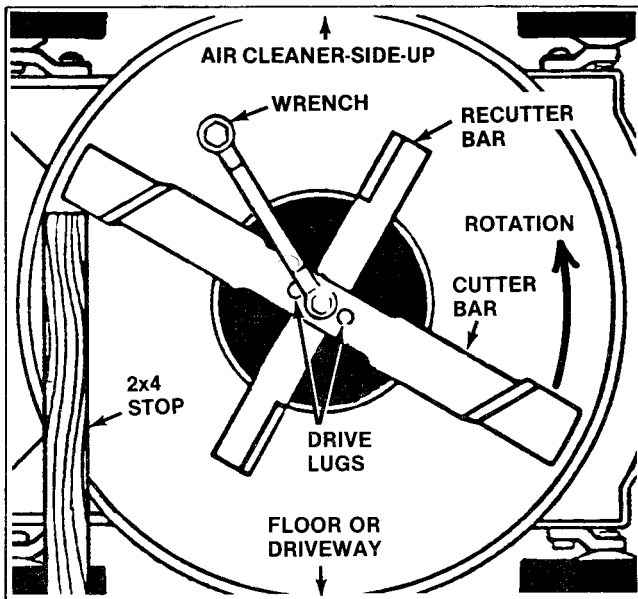

FIGURE 14
3. As shown in Figure 14, use a piece of 2" x 4" lumber about 14-inches long (rough metric equivalent: 4 x 9 x 36 cm) as a stop. Insert the stop between the cutter blade and the floor.
5. Install sharp recutter bar and cutter bar as shown in Figures 14 and 15. Be sure both bars are correctly mounted in the adapter. Install the lockwasher and bolt and make the bolt finger tight.